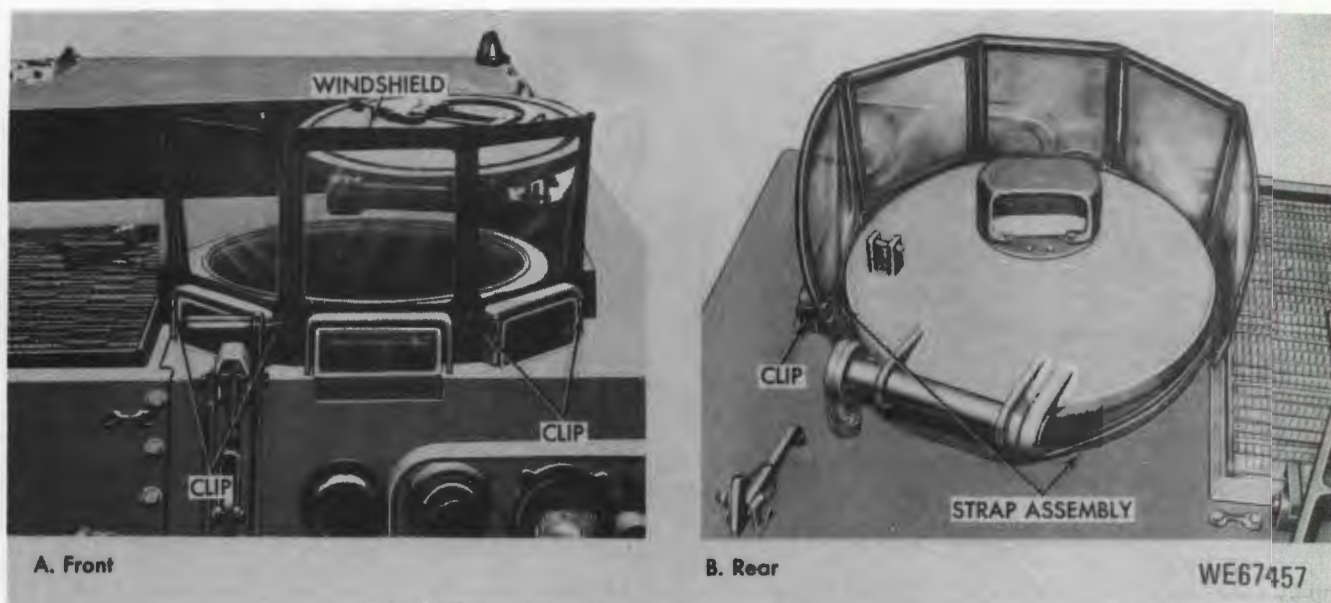

Figure 2-79. Driver's windshield.
(2) *Description.* The driver's windshield (fig. 2-79) is a removable shield with five vinyl plastic windows, mounted across the front of the driver's hatch opening, to protect the driver from the effects of arctic windchill during cold weather operation. Wire supports sewed into the canvas, between the windows and along the upper edge, retain the windshield in a vertical position. When installed, five clips and a strap assembly attach the windshield to the driver's hatch. When not in use, the windshield is folded, placed into a stowage bag, and stowed inside the vehicle.
(b) Position windshield between periscopes and driver's hatch (fig. 2-79).
(4) *Removal (fig. 2-79).*